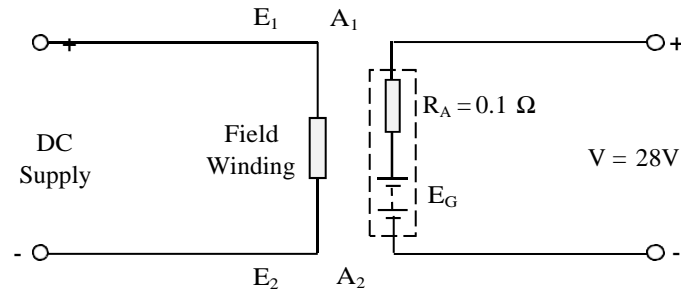

Figure 12.
12. The motor shown in figure 12 has a field flux of 0.0125Wb , runs at 250rpm , and has a machine constant of 8. For these conditions, determine the: